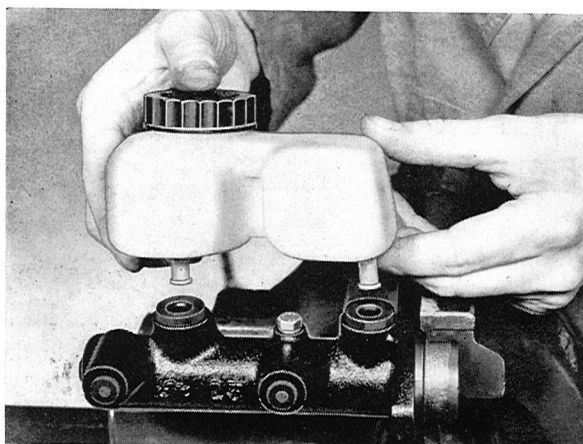
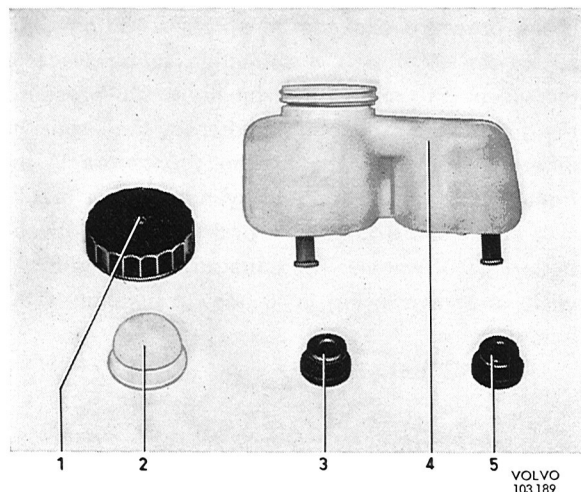
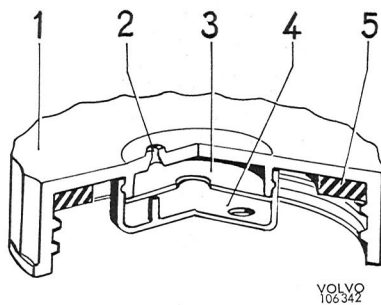

Fig. 5-43. Removing container
Fig. 5-44. Container parts
Fig. 5-58. Cover
2. Place both hands under the container and pull it up from the rubber seals, see Fig. 5-43.
Remove the filler cap and strainer from the container and also the rubber seals from the cylinder see Fig. 5-44.
6. Install rubber seals (3 and 5, Fig. 5-44). Check that the vent-hole (2, Fig. 5-58) in the cap is clear and install the strainer (2) and filler cap in position. Install container, compare Fig. 5-43.